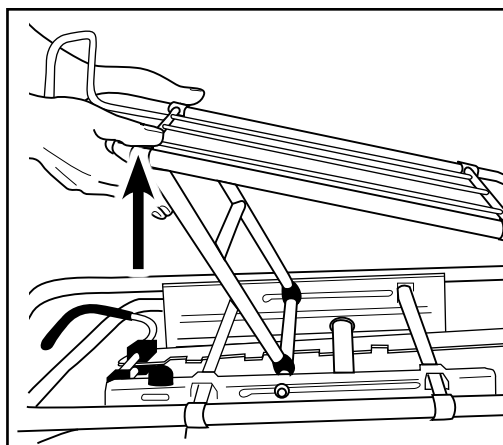

Figure 16 - Lift Before Unlocking and Lowering the Shock Frame
- **To lower,** stand at the foot end of the cot. Lift the shock frame slightly to support the weight (Figure 16), then press the two thumb levers and lower the shock frame.